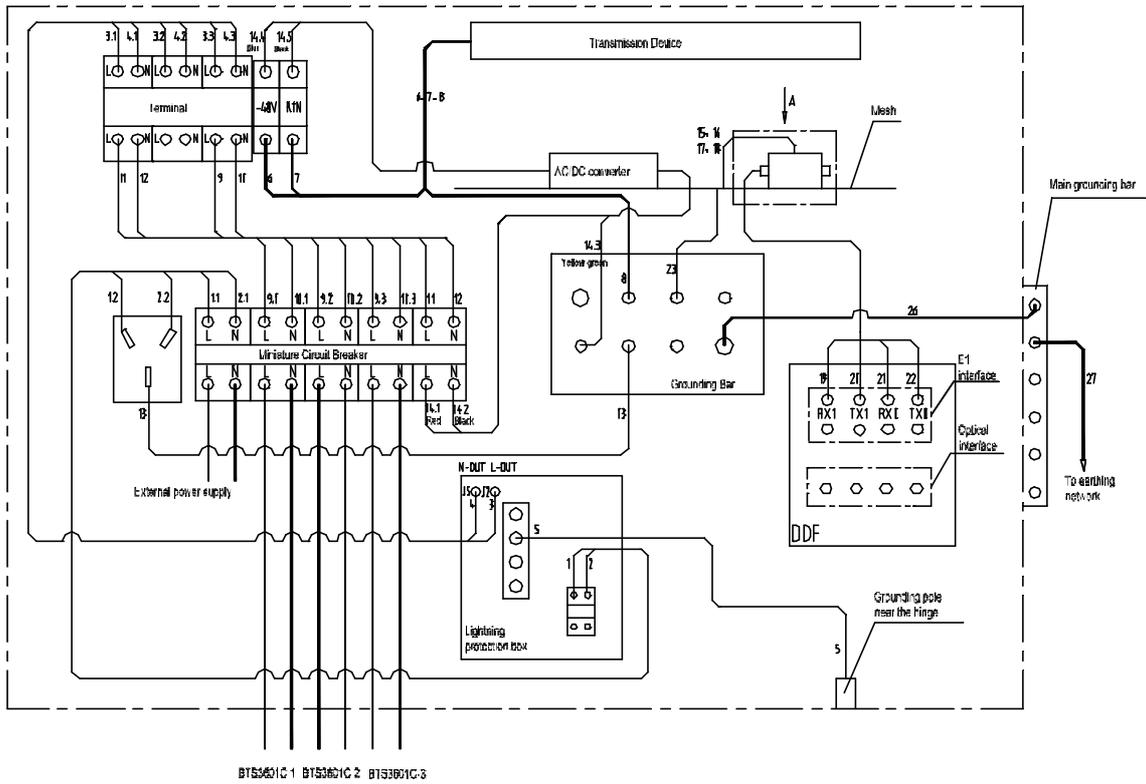

Figure 2-54 Cable distribution of IAFB networking (without UPS)
Please connect the relevant cables correctly according to the labels on them, the correspondence shown in Figure 2-54 and Figure 2-55, and the correspondence between labels and cables shown in Table 2-3.
- 1) Figure 2-55 shows the front view of cable connection on DDF shown in Figure 2-54.